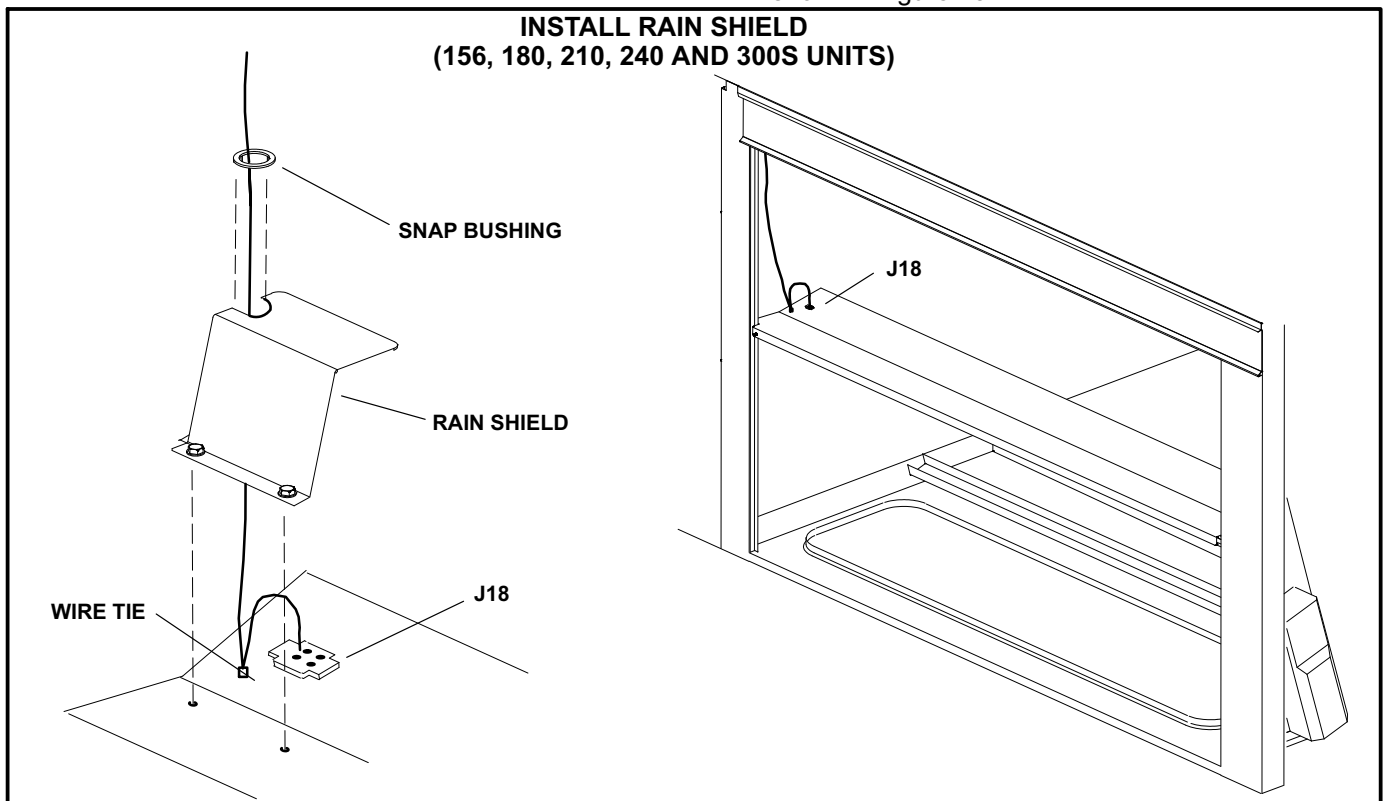

FIGURE 15
- 3- *156, 180, 210, 240, 300S Units Only* - Install the strain relief, bushing, and rain shield as shown in figure 15.